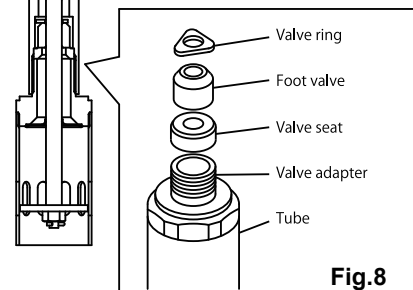

Fig.8
- 7) Secure the lower pump cylinder in a vise. Then unscrew the valve adapter with a spanner wrench. Then remove the valve seat, foot valve and valve ring. (Fig. 8)